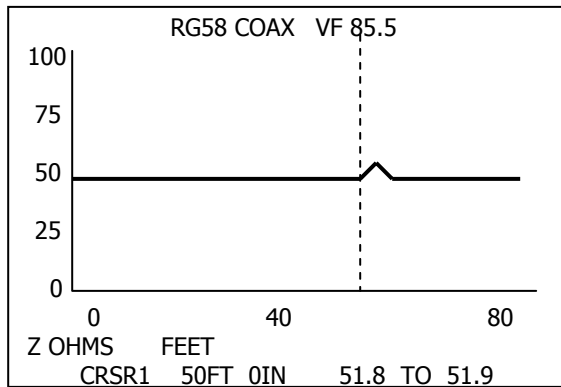

Figure 1
2. A barrel connector with greater or lesser impedance than that of the two cable's being connected will display either a small upward deviation for greater impedance or a small downward deviation for lesser impedance. See Figure 1 depiction of a 75 Ω barrel connector connecting two 50 Ω sections of coax cable.